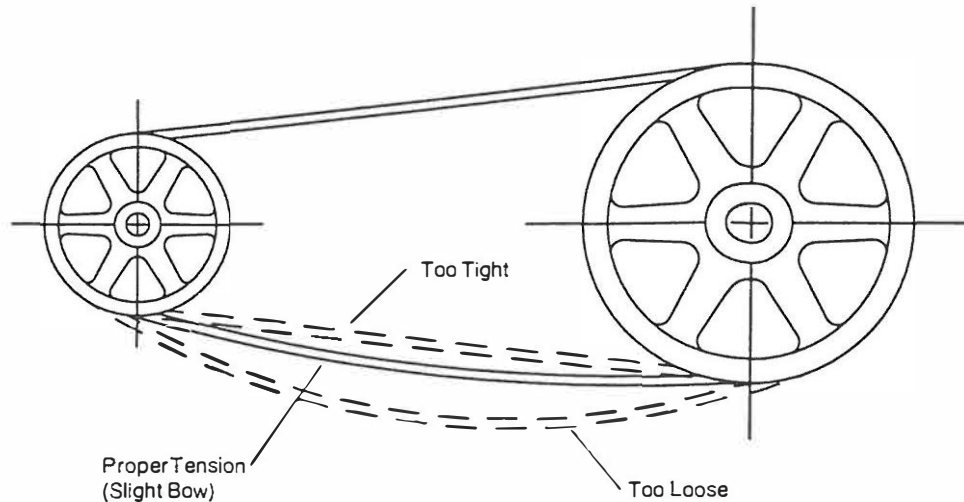

Fig. 4 Belt tension.
- (i) Shorten the center distance between the driven and driver sheave so the v-belts can be slipped into the sheave groove without damage. While the v-belts are still loose on the drive, rotate the drive until all the slack is on one side. Then increase the center distance until the v-belts are snug (Figure 4). NOTE: Never "roll" or "pry" the v-belts into the sheave grooves. This can damage the v-belt cords and lead to v-belt turnover, short life, or actual breakage. Moreover, it is both difficult and unsafe to install v-belts this way. Keep takeup rails, motor base, or other means of center distance adjustment free of dirt, rust, and grit. Lubricate adjusting screws and slide rails as required.